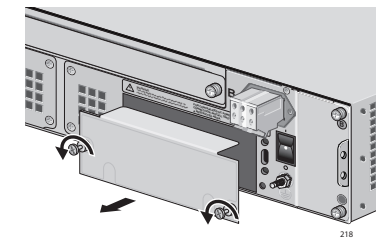

Figure 3. Removing the Power Supply Slot Cover
3. Loosen the two captive screws that secure the blank slot cover (AT-CV5PNL2) of the selected power supply slot, and remove the blank slot cover, as shown in Figure 3.